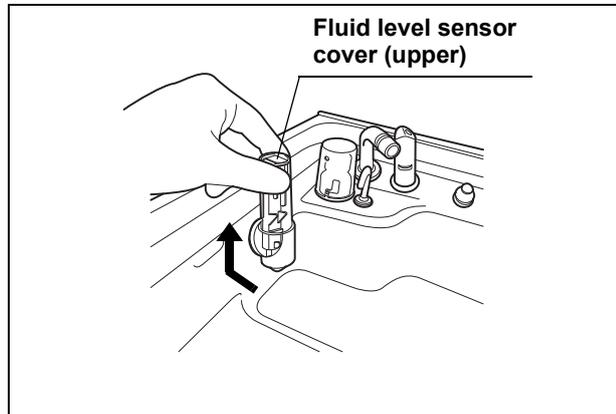

Figure 5.4
2. Push the fluid level sensor cover (upper) and lift it up to remove as shown with the arrow in Figure 5.4.